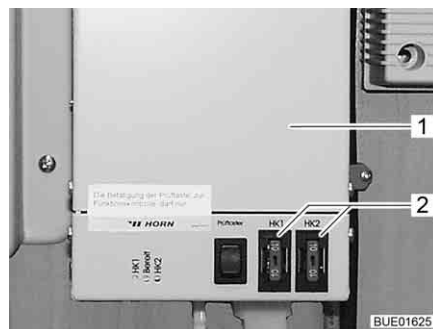

Fig. 125 Heater regulation for waste water pipes
The fuses are located on the regulator (Fig. 125,1).
- Replace fuse (Fig. 125,2).